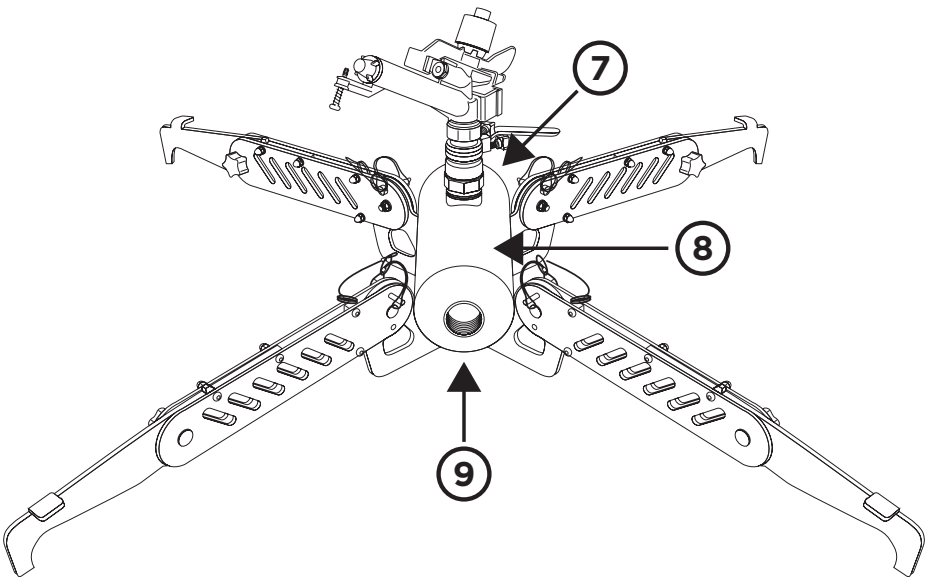

Figure 5.
- Attach one end of water supply hose / fire hose to water source and the other end to the threaded inlet/outlet (7) on the backside of the cannon manifold (8), the one opposite the valve end, *Figure 5*.
- Attach a hose to the first water cannon on to the front threaded inlet/outlet valve ⑨, *Figure 5*.